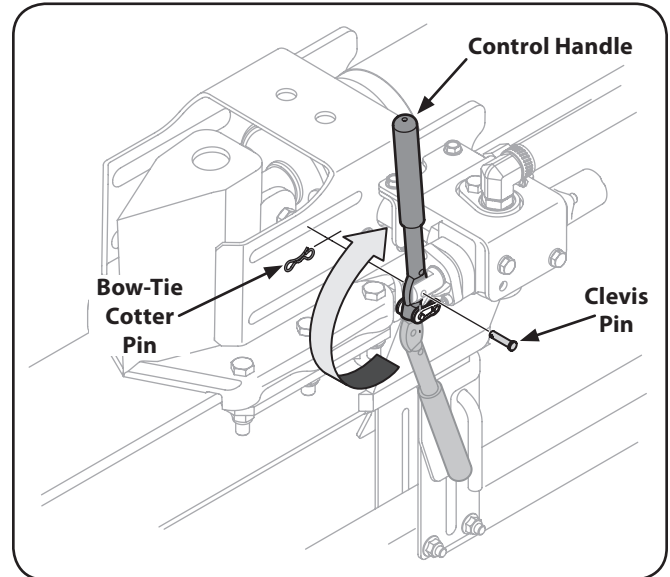

Figure 3-8
- Remove the clevis pin and bow-tie cotter pin from the control handle. See Fig. 3-8.
- Rotate the control handle into the operating position and secure with the clevis pin and bow-tie cotter pin removed in step 22. See Fig. 3-8.